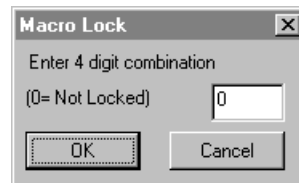

Figure 11.2. Use the Macro Lock feature to lock a macro as a “black box.”
- 3 Choose **Macros > Macro Lock** to display the dialog box pictured in Figure 11.2.